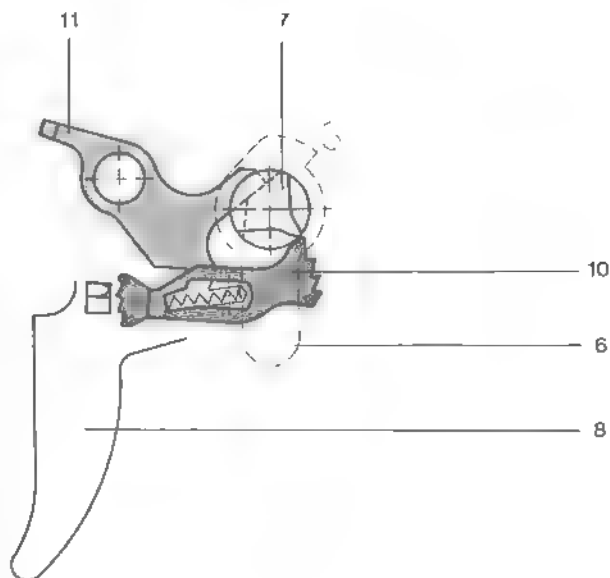

Figure 65
The hammer is retained by the trigger rod. When the trigger (8) is released the segment (10) moves back to its home position (refer to figure 65).